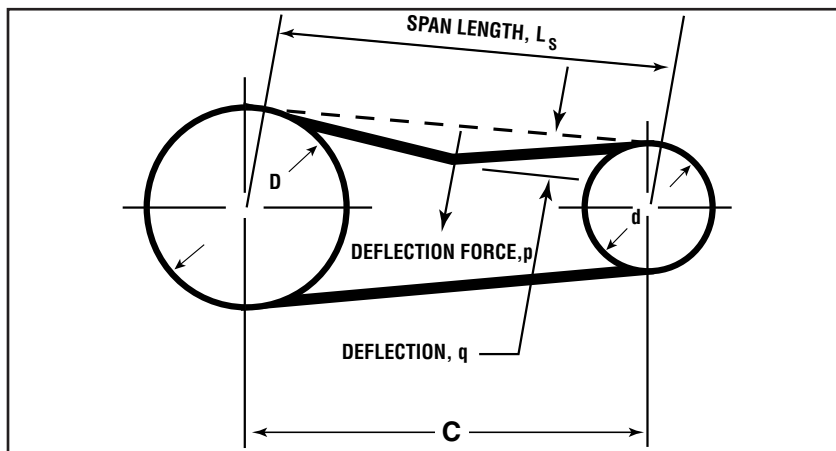

Figure 26 — BELT DEFLECTION DIAGRAM
Step 1. Install the belts per rules 1 and 2 of the “General Method” discussed previously. Measure span length (t) in inches as shown in Figure 26, or calculate as follows:
Step 2. Calculate the deflection distance by: $t/64 = \text{deflection}$. Note from Figure 26 that the deflection distance is always 1/64” per inch of span length (for example, a 32” span length would require a deflection of 32/64 or 1/2 inch).